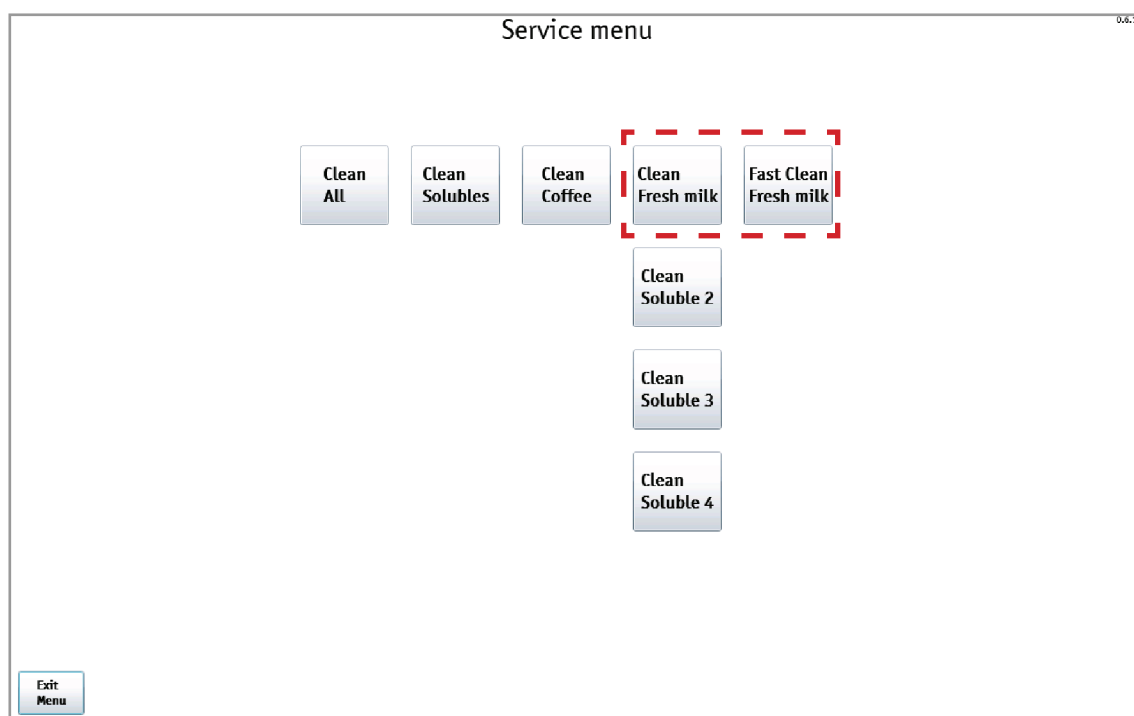

Fig.11.1 - Milk system washing
12. On the vending machine screen, the washing page should appear (see fig. 11.1).